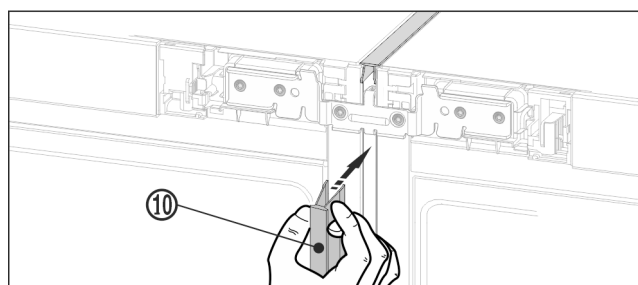

Fig. 21
- On the front press the long cover strip Fig. 21 (10) into the vertical gap. Ensure that the strip rests on the connecting plate.